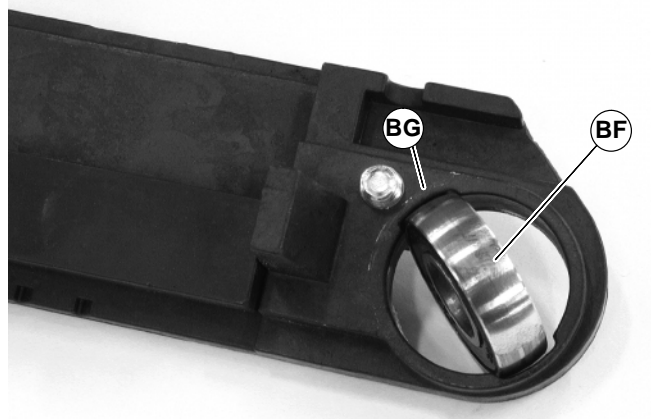

Figure 37
1. Turn bearing (BF of Figure 37) to align with slots (BG) in head plate. Then remove bearing.